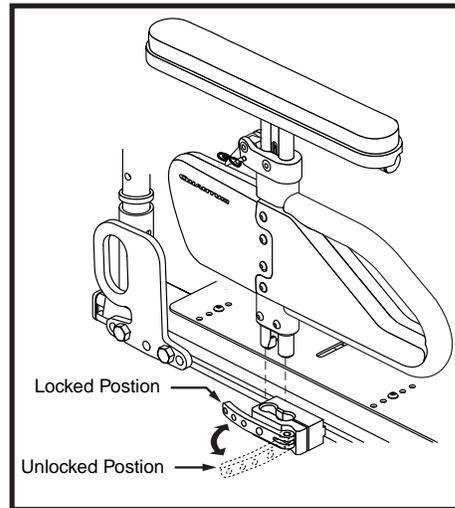

Figure 12. Single Post Quick Height Adjustable Armrest Removal/Installation
1. Rotate the armrest lock lever forward. See figure 12.
1. Place the armrest assembly into the armrest lock. See figure 12.